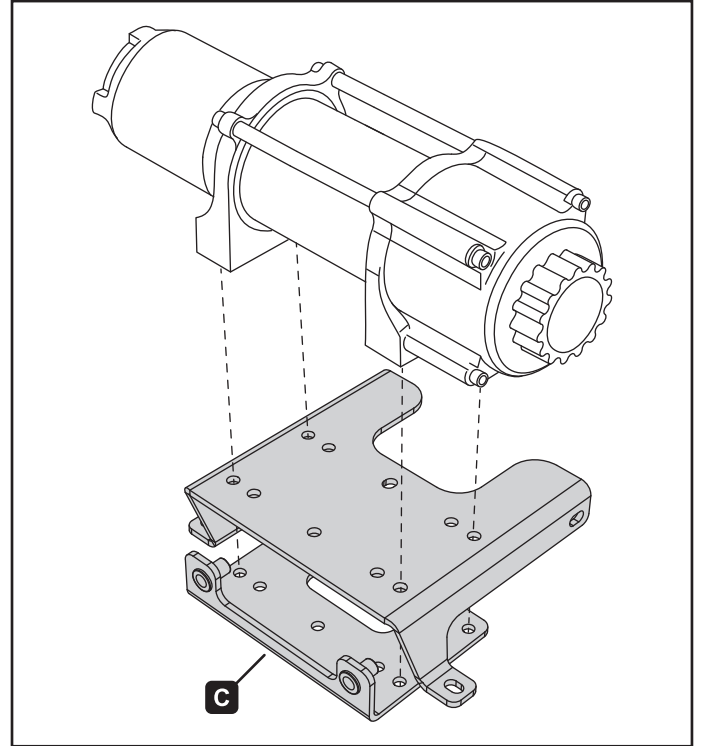

Figure 7. Wide winch configuration
Wide Winches: Use wide fairlead bracket (C) with the hardware that came with your winch as shown in figure 7.